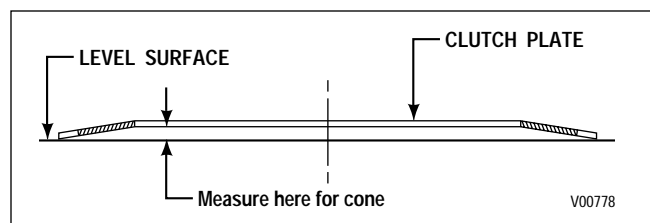

Figure 4-6. Method of Measuring Clutch Plate Cone
(1) Inspect friction-faced steel plates (internal-splined plates) for burrs, imbedded metal particles, severely pitted faces, excessive wear, cone, cracks, distortion, and damaged spline teeth. Remove burrs, using a soft honing stone. Replace plates which have other defects.
(2) Inspect steel plates (external tanged plates) for burrs, scoring, excessive wear, cone, distortion, imbedded metal, galling, cracks, breaks, and damaged tangs. Remove burrs and minor surface irregularities, using a soft honing stone. Replace plates which have other defects.
(3) The amount of cone in clutch plates is determined by measuring the distance between the inside diameter of the plate and a flat surface (Figure 4-6). Discard plates having excessive cone (refer to Wear Limits, Section 8).